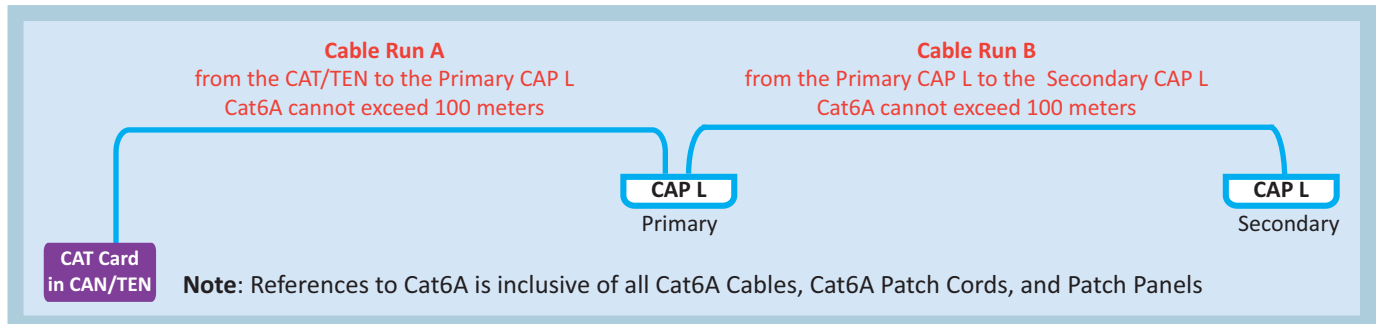

Figure 17. Maximum Cat6A Cable Lengths between Cascaded CAP Ls
- For cascaded CAP Ls, the maximum Cat6A cable length between the AUX port on the Primary CAP L and the MAIN port on the Secondary (cascaded) CAP L, including the length of the Cat6A Patch Cord, must be less than 100 meters (see Figure 17).